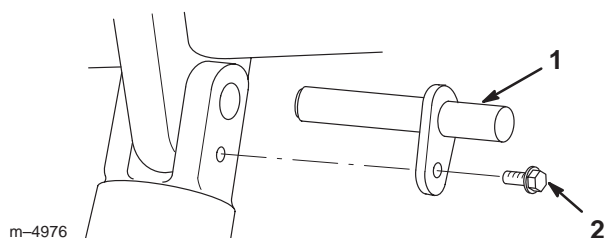

Figure 5
5. Install the new pin into position and secure it with a bolt (Fig. 5).